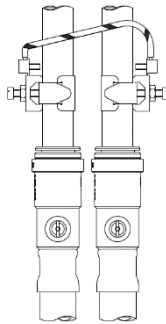

Figure 13 Earth continuity connections
- **Adjacent pipes:** Adjacent suction and delivery pipes should be fitted with earthing clamps and connected with earthing wire size 4 mm² (Figure 13).